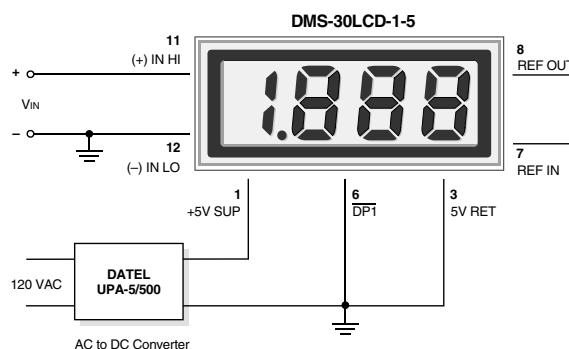

Figure 2. Single-Ended Input Configuration (5V-Powered Models)
1. **Single-Ended Input Configurations:** True single-ended measurements can only be made with 5V-powered meters. The circuit of Figure 2 avoids problems normally associated with ground-loop currents. Separate ground runs should be used for 5V RETURN (pin 3) and (–) INPUT LO (pin 12).